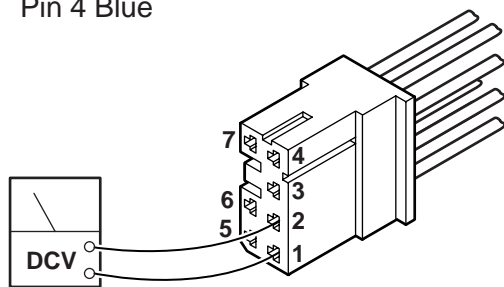

Figure 6-14. Relay Box Input
2. Using a DC voltmeter, test input power for both the BATTERY and AC120V operating modes. See figure 6-14. Meter should read approximately 24-28 volts in BATTERY mode and 26.5 ± 1 volts in AC120V mode.
2. Test CN4 at pin 3(+) and pin 4(-) with a DC voltmeter. DO NOT disconnect connector CN4. Meter should read approximately 24 volts when any function button is activated. Refer to figure 6-14 for pin locations.